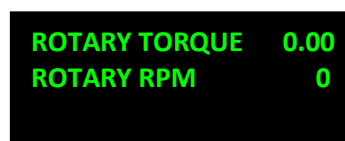

Figure 17. Readings on the Control Module display
For functional test of the DCM-140(R) it is necessary to communicate the sensor with the Signal Transducer PS-150 series, to connect the Signal Transducer to the MU-150 / MU-150E / MK-140 unit then, to turn power on and to make sure that the parameters ROTARY TORQUE and ROTARY RPM are displayed on the MU-150 / MU-150E EL screen (see Fig. 17).